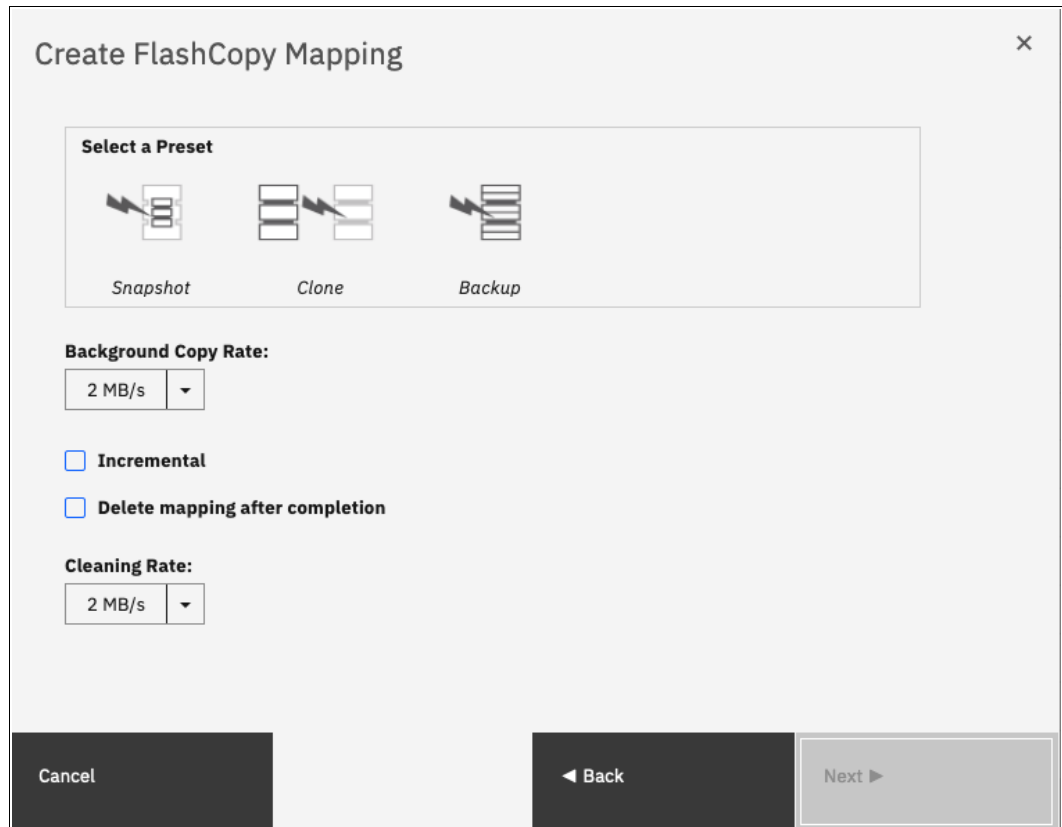

Figure 10-42 FlashCopy mapping preset selection
4. In the next window, select one FlashCopy preset. The GUI provides the following presets to simplify common FlashCopy operations, as shown in Figure 10-42. For more information about the presets, see 10.2.1, “FlashCopy presets” on page 584: